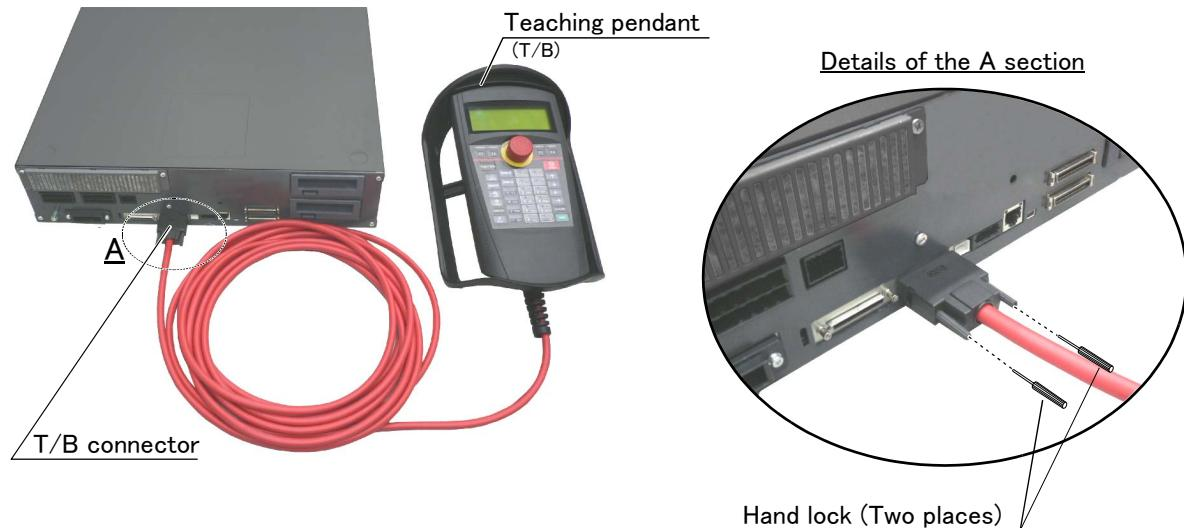

Fig. 2-18 : Installing and removing the T/B (CR751controller)
- 2) Connect the T/B connector to the controller's T/B connector. Make sure to fix it securely by fastening the hand locks (in 2 places), as shown in Fig. 2-18.